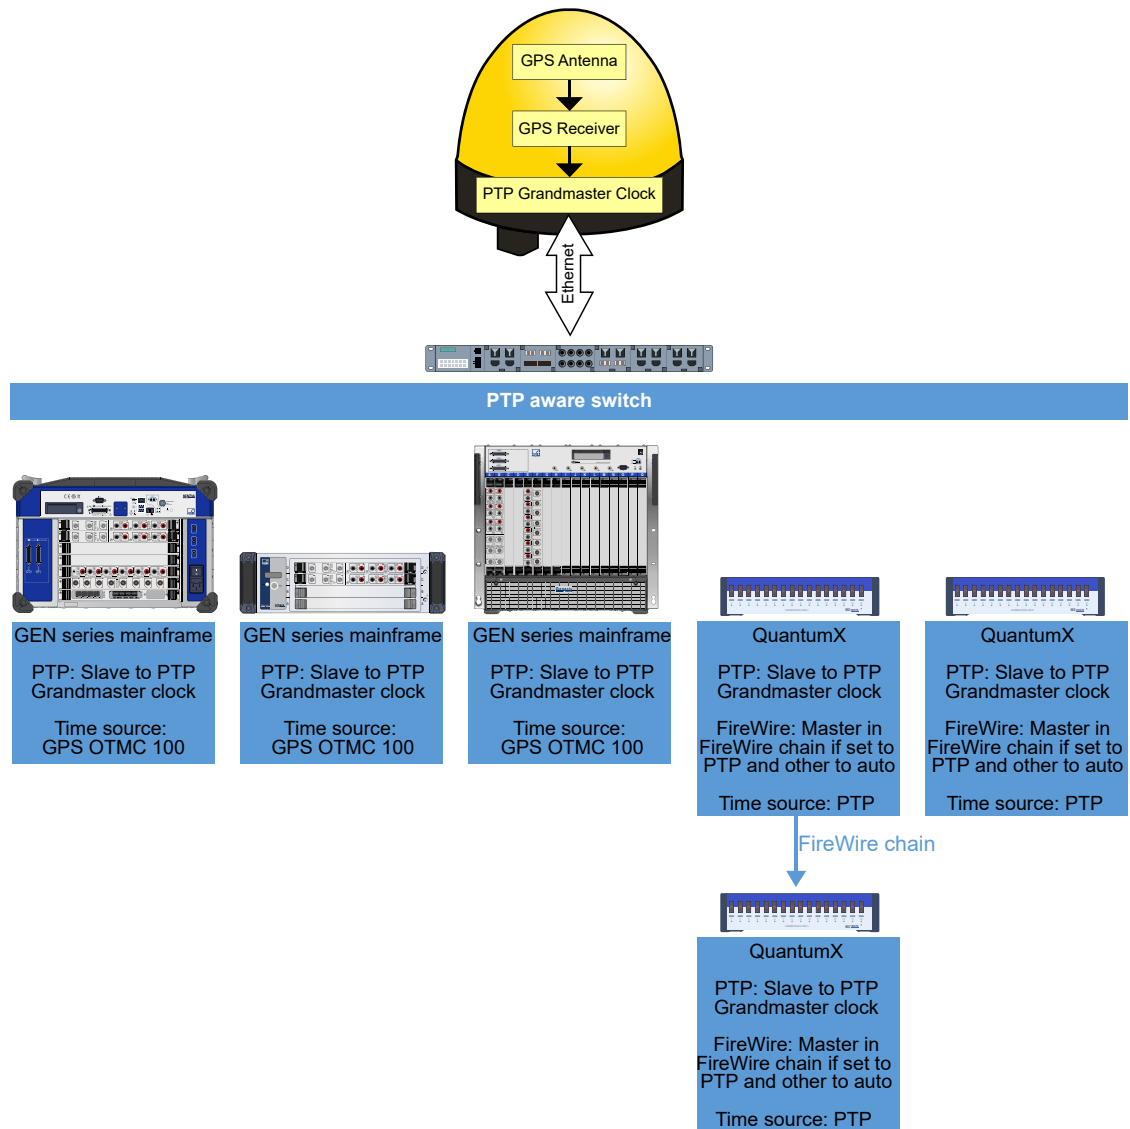

Figure 14.29: GPS receiver with tethered mainframes plus QuantumX
- G002B: GPS receiver with tethered mainframes plus QuantumX (see Figure 14.29)